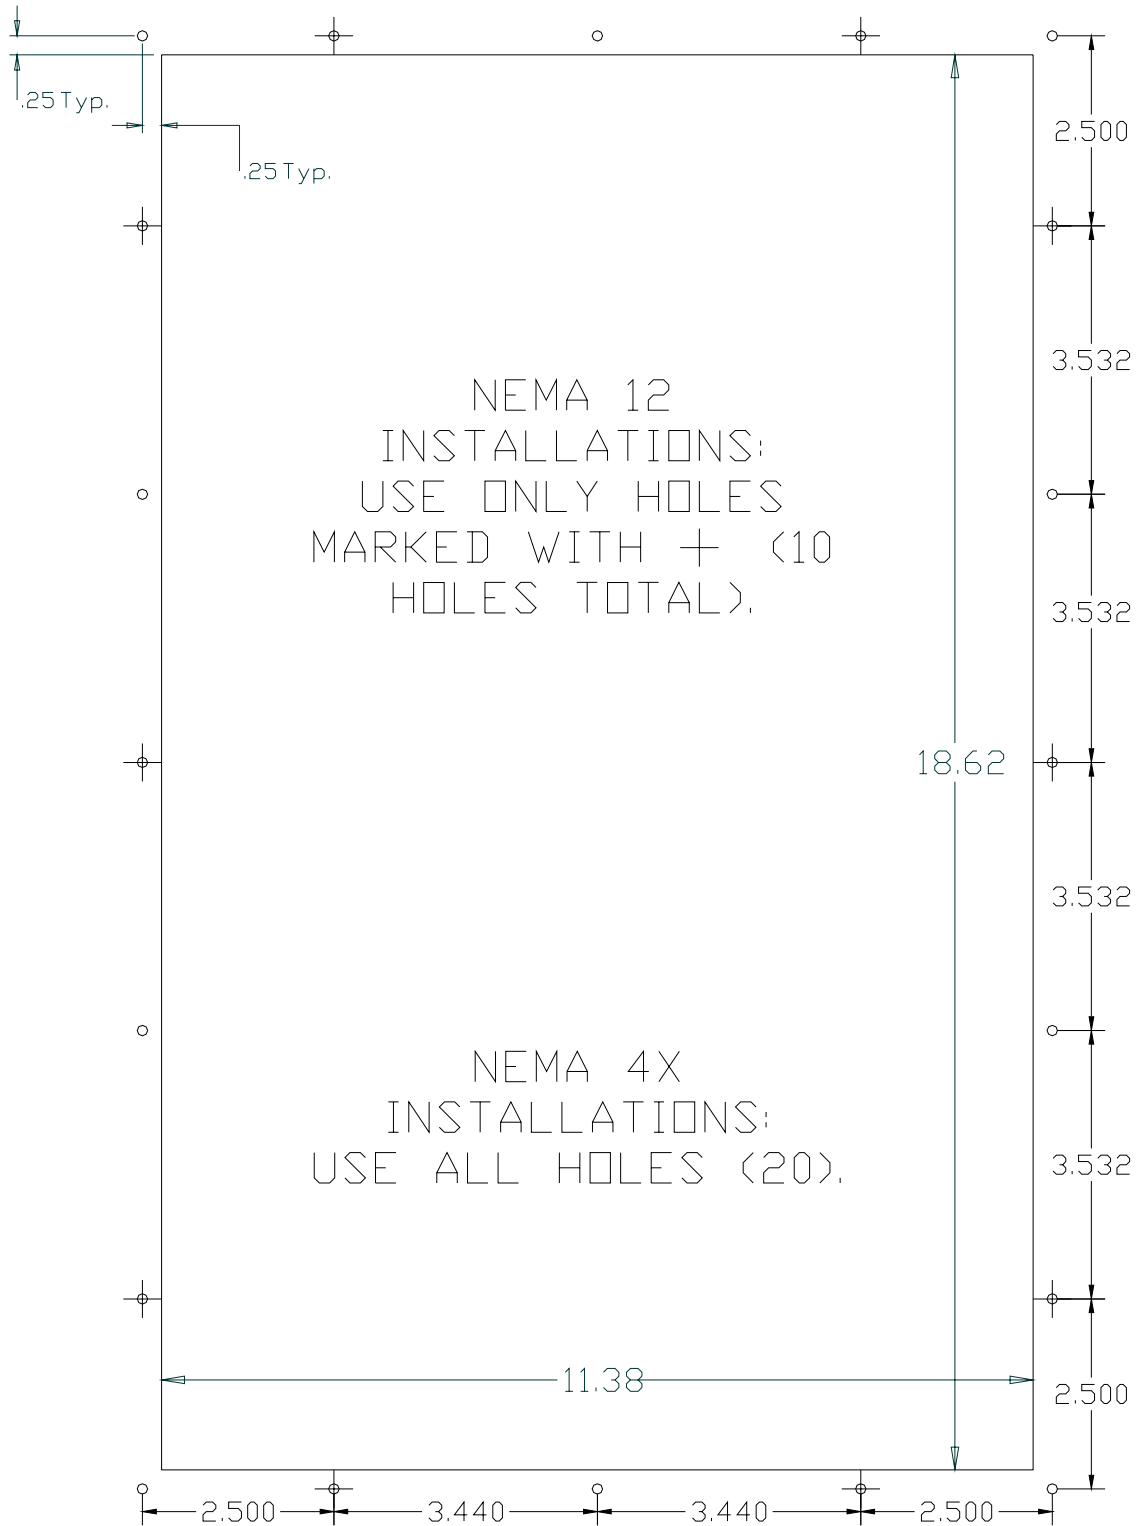

FIG. 2.3
To mount the 1500 Btu unit you will need to cut an opening in your enclosure and drill mounting holes. A cut-out drawing (Fig. 2.3) showing the cut-out size and hole locations has been included in this manual (see Fig. 2.3). The instructions for installing the air conditioner are printed below.
2. Layout the cut-out and hole pattern for the AC on the enclosure. Refer to Figure 2.3.
- b. If this is an indoor installation with no chance of exposure to water or other liquids, you can use 10 screws per the NEMA 12 pattern in Fig. 2.3.